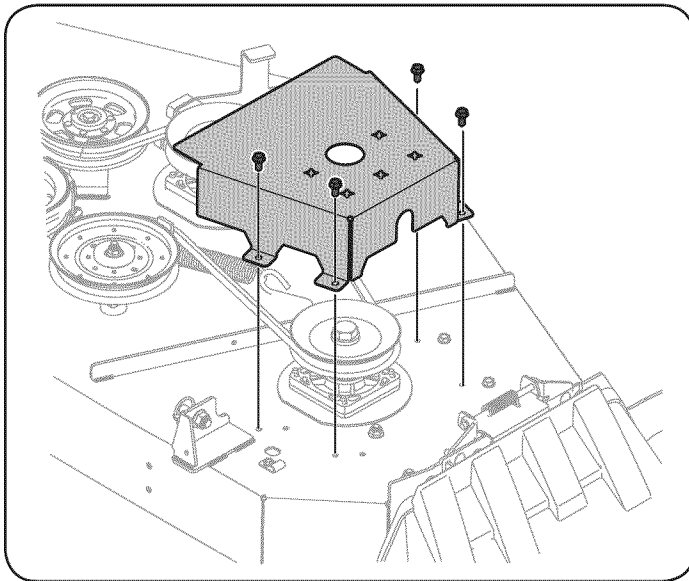

Figure 37
2. Remove the hex washer screws securing the belt covers to the deck. See Figure 37.
5. Install the new belt around the spindle pulleys as shown and reinstall the belt covers. See Figure 37.